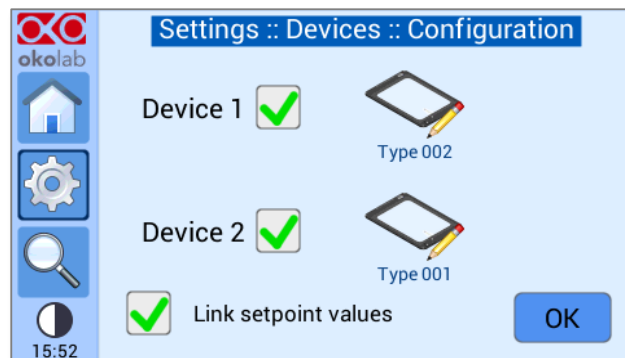

Figure 26. Link setpoint values.
**Tip** ► If you have connected two devices and you want both of them to operate at the same set point value, flag the box Link set-point values (see Figure 26). If you do not flag the box labeled with Link set-point values, H401-T-CONTROLLER allows you to define different set point values for the two devices.